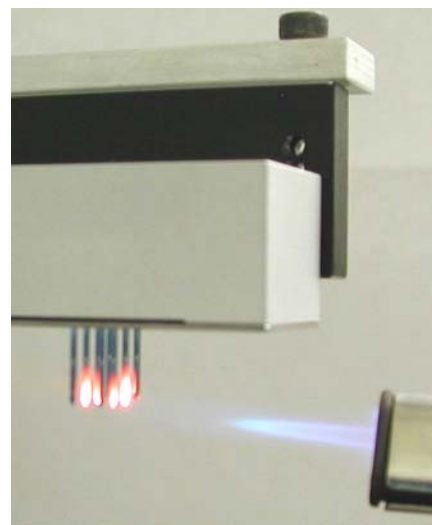

Fig. 21 Simultaneously cleaning all of the silicon pins while in the printhead using butane torch.
By heating the pins red hot all of the organic deposits on the surface of the pins will burn off rendering the pin surface free of any sort of organic deposits and contaminants. Fig. 20 shows photomicrographs of two silicon pins before and after cleaning them using the butane torch. Torch cleaning should be immediately followed by a regular washing and drying to remove any inorganic deposits left over on the pin surface. All the pins in the printhead can be cleaned directly in the printhead without having to unload the pins (Fig. 21). The foam on top of the pins in the printhead should be removed before heating the pins with the torch as discussed below.
- Using a mini butane/propane torch heat the pin tips and reservoir channel as shown in Fig. 21. The pins do not need to be unloaded for this procedure.
- Always heat the pins by keeping the torch flame horizontal as shown in Fig. 21 (keeping it away from the bottom of the printhead). Do not allow the torch to get too close to other parts of the printhead or heat the printhead directly as it may damage the close tolerance parts in the printhead. Do not expose the pins to the torch for long periods of time (< 2-4 sec). If 2-4 sec is insufficient heat the pins several times for short intervals of time instead of continuously heating them.